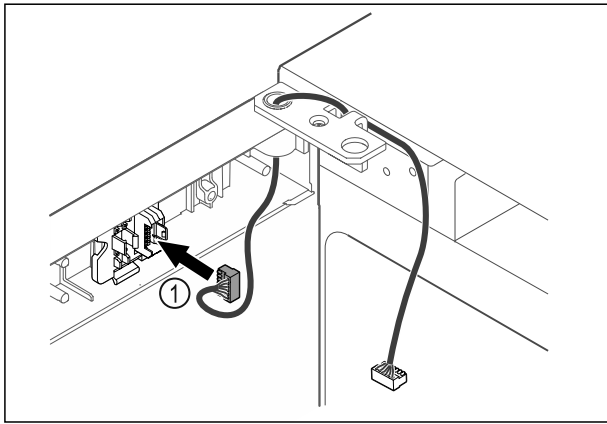

Fig. 63
- ▶ Put the plug Fig. 63 (1) in the plug holder.